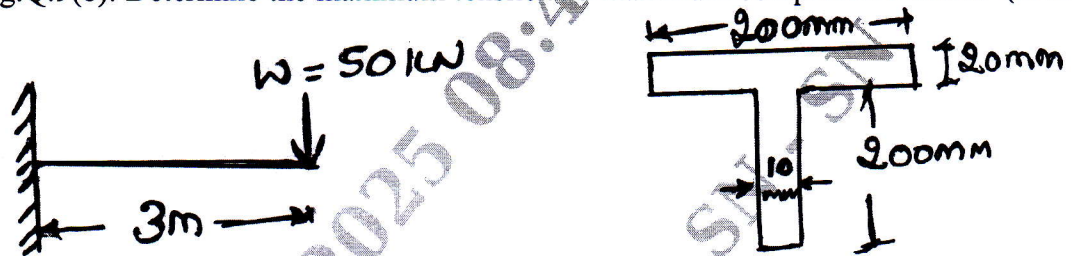

Fig.Q.9(b)
- b. A cast iron T-section has a length of 3 m and is subjected to a point load of 50 kN as shown in Fig.Q.9(b). Determine the maximum tensile and maximum compressive stress. (10 Marks)